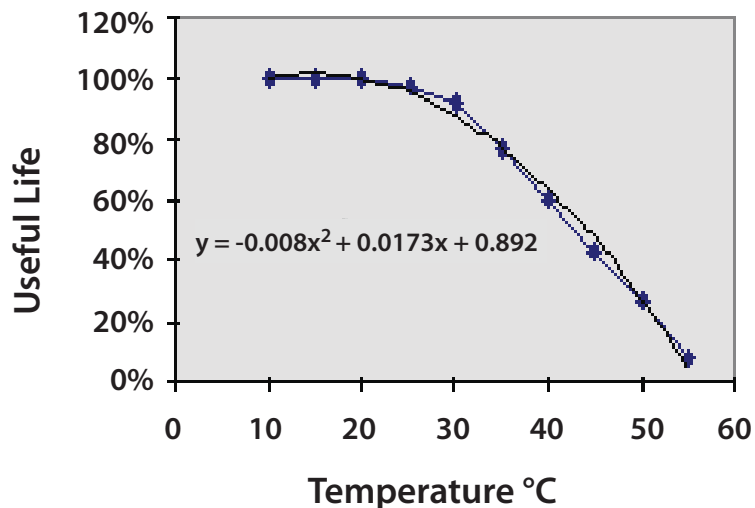

Figure 2: Useful Life of Yuasa NP Batteries versus Temperature
- (1) **Temperature:** warmer temperatures decrease life because heat hastens chemical reactions that cause corrosion of the internal electrodes. The temperature effects are shown on Figure 2 and described below.